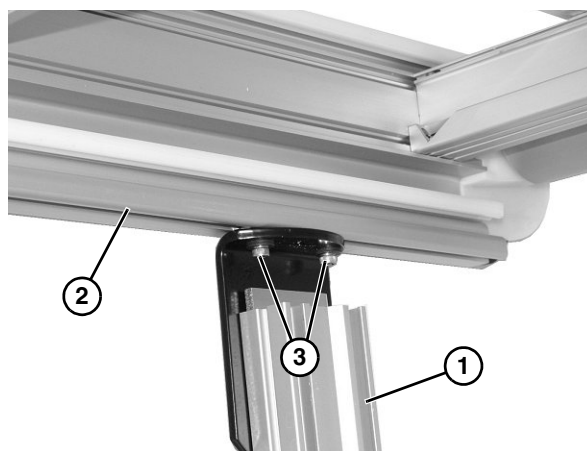

Figure 10
2. Attach stands (**Figure 10, item 1**) to the bottom of the conveyor frame (**Figure 10, item 2**). Tighten socket head screws (**Figure 10, item 3**), on each side, to secure in place.